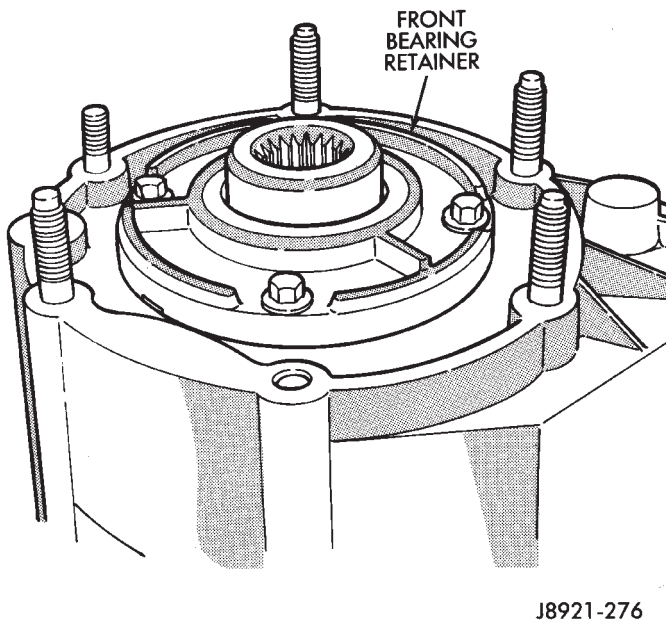

Fig. 54 Installing Front Bearing Retainer
(18) Apply 3 mm (1/8 in.) wide bead of Mopar gasket maker, silicone adhesive sealer, or Loctite 518 to seal surface of front bearing retainer.
(19) Install the front bearing retainer (Fig. 54). Tighten the retainer bolts to 16 ft. lbs. (21 N·m) torque.